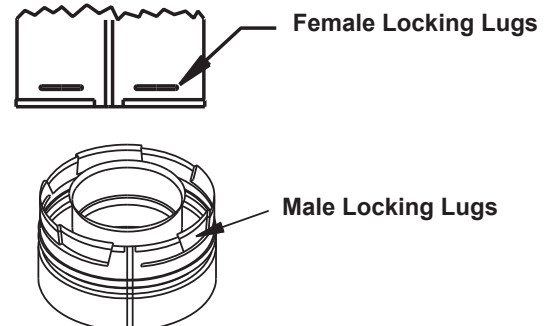

Figure 5.4
**Note:** Female ends of direct vent pipe/elbows are designed to slide straight onto the male ends of adjacent pipes by orienting the pipe indentations so they match and slide into the entry slots on the male ends, see **Figure 5.4**. Push the pipe sections completely together, then twist-lock one section clockwise approximately one-quarter turn, until the two sections are fully locked. The female locking lugs may not be visible from the outside. They may be located by examining the inside of the female ends.